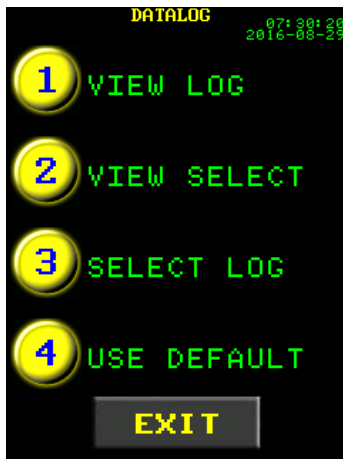

Figure 4.6-1: DataLog Menu
2. Select "View Log" from the DataLog Menu (Figure 4.6-1).
2. Select **"View Select"** from the DataLog Menu (Figure 4.6-1).